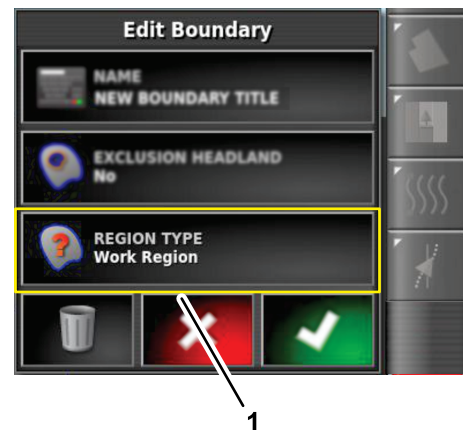

Figure 63
1. In the edit boundary dialog box, press the REGION TYPE icon (Figure 63).